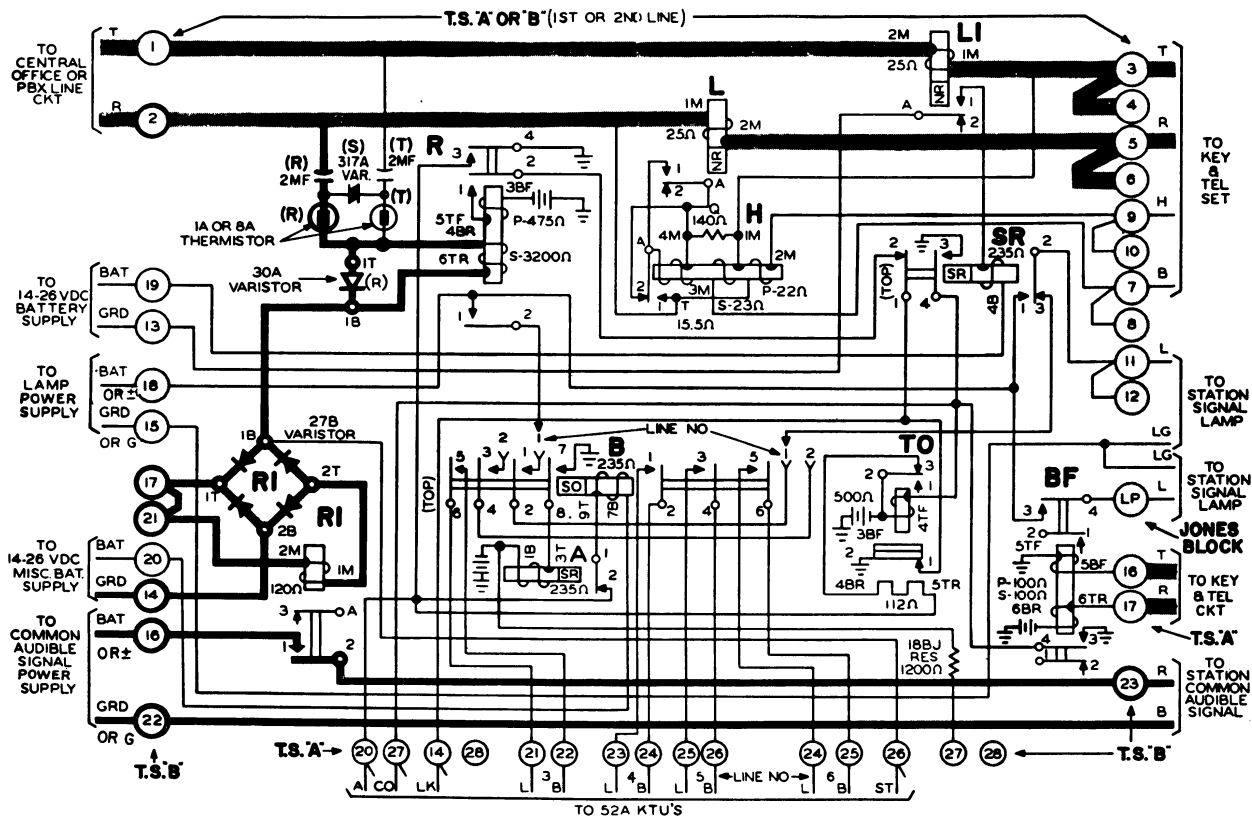

Fig. 1 Ringing and Common Audible Signaling Circuits - 51AKTU
1.03 The drawings (Figures 1 thru 10) together with the circuit descriptions are shown on the same page, wherever possible. These circuits consist of:
- (a) Fig. 1 Ringing and Common Audible Signaling Circuit for 51A KTU.